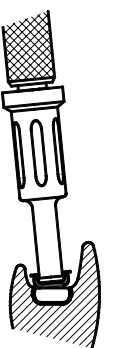

Fig. 15
11. Use the LOCATOR Male Removal Tool (attached to the Locator Core Tool, Zest order #8393) to remove the Black Processing Male from the metal denture cap. The sharp circular edge on the end of the removal tool should be wedged tightly down into the very bottom of the plastic male so that it will catch the inside of the black plastic insert to pull it at an angle out of the metal housing. (Fig. 15)